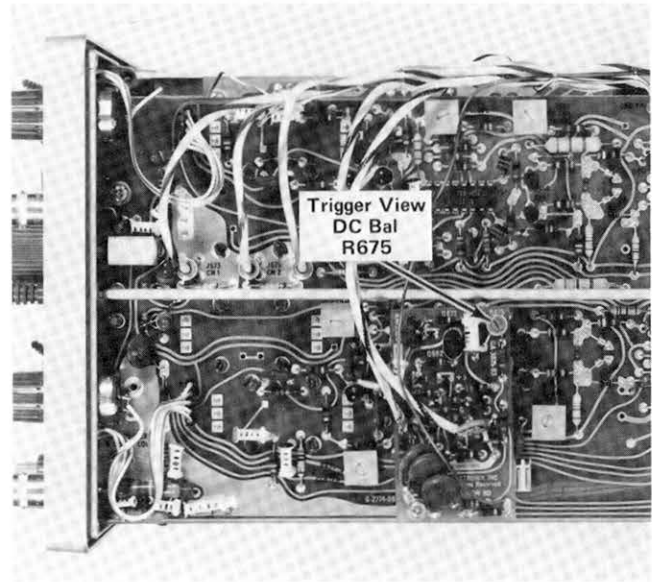

Fig. 5-28. Location of Trigger View Centering adjustment.
d. ADJUST—Trigger View Centering adjustment, R675, (see Fig. 5-28) so that the trace is at the center horizontal line.